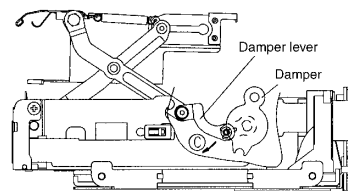

Fig. 2.
(2) Turn the damper lever in the arrow **C** direction to release the engagement of the damper bar. (See Fig. 2.)